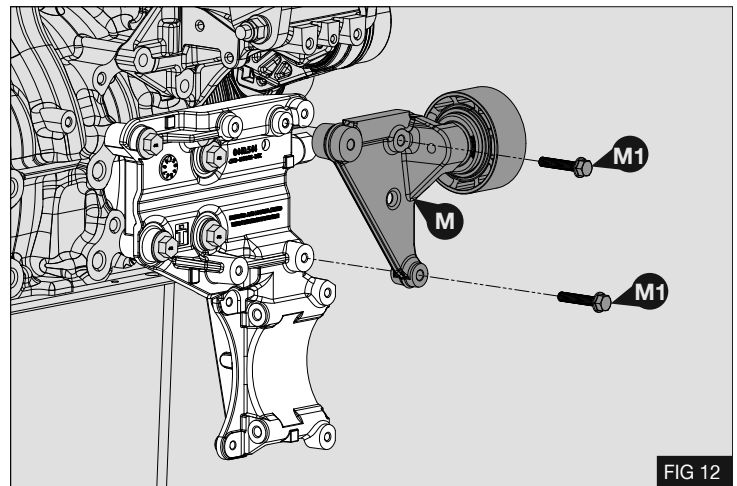

FIG 12
1. Refit the foolish pulley assembly (M) using 2x original fasteners (M1). - Fig 12